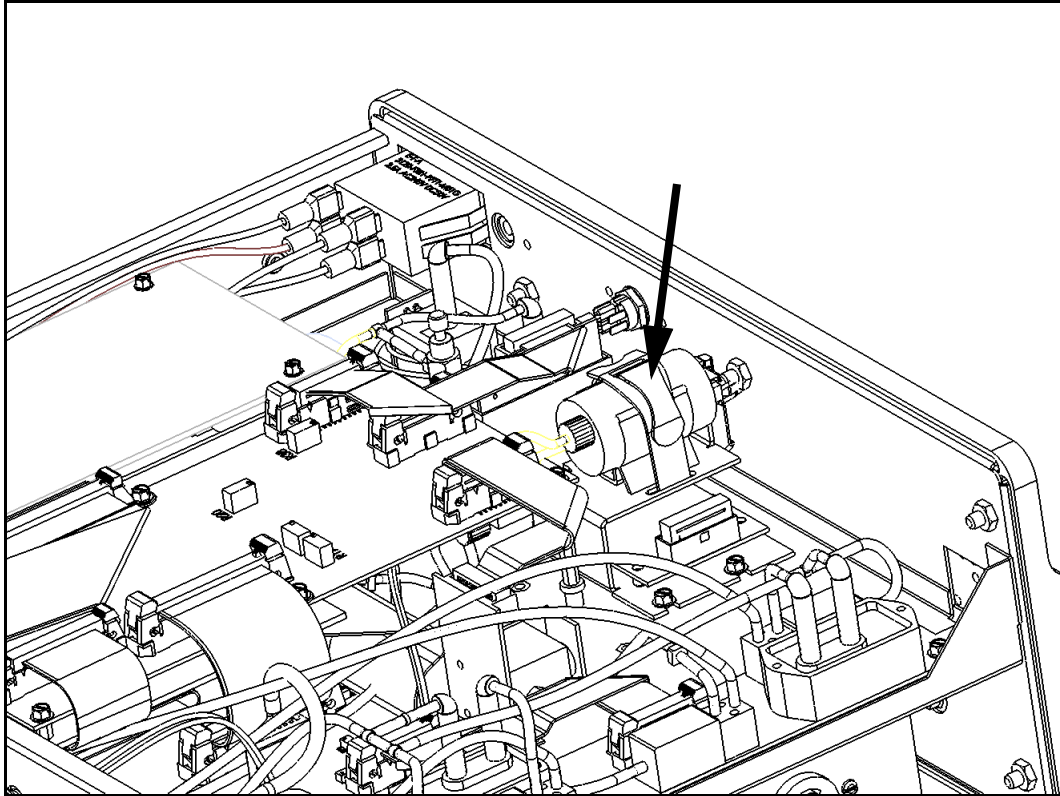

Figure 3-9 Sensor Retaining Strap
3. Unfasten the strap that secures the O₂ sensor, which is at the front of the module (Figure 3-9).